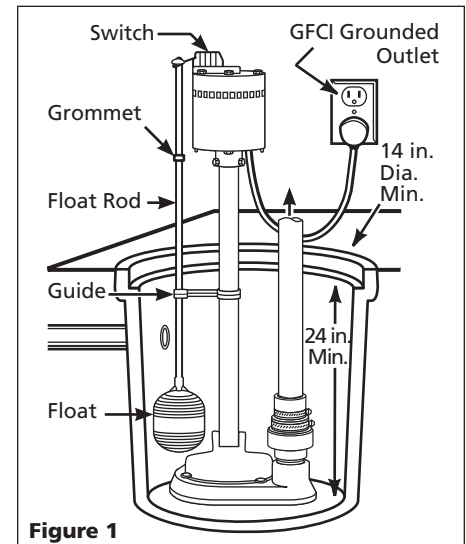

Figure 1
3. Install pump in a sump pit with minimum size as shown (See Figure 1). Construct sump pit of tile, concrete, steel or plastic.
4. Locate unit on a solid, level foundation. Do not place pump directly on clay, earth, gravel or sandy surface. These surfaces contain small stones, gravel, sand, etc. that may clog or damage the pump and cause pump failure (See Figure 1).